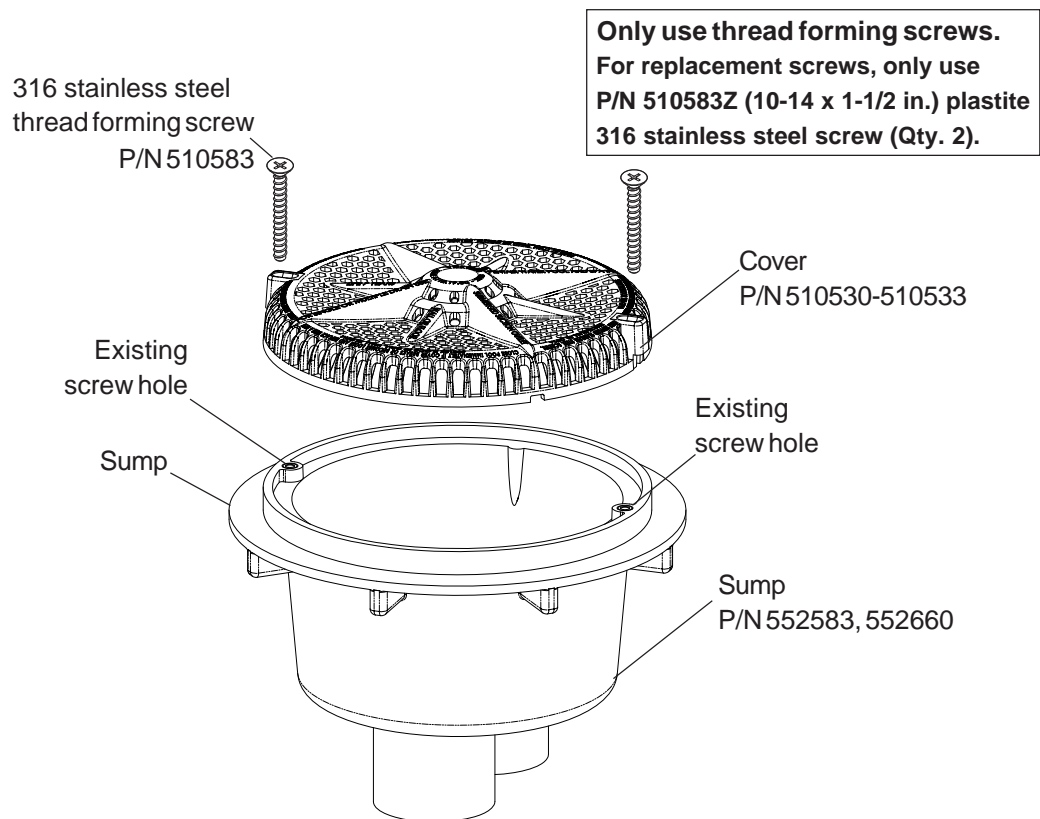

Figure 2
3. Mount the drain cover on top of the sump (see Figure 2). Rotate the cover to align the screw holes.
4. Install the two (2) 316 stainless steel 8-32 machine screws (provided) into the holes in the top of the cover. Using a No. 2 Philips head screwdriver, tighten each retaining screw to a **torque value of 10.00 (minimum) to 15.0 (maximum) in/lbs** to secure the cover. DO NOT OVER TIGHTEN THE SCREWS. DO NOT ASSEMBLE WITH POWER TOOLS.